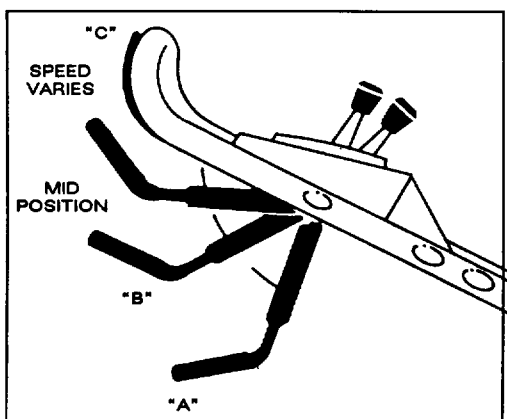

Figure 7
4. BLADE AND TRACTION OPERATION (Fig. 7)—Move control bar down to "A" and raise to engage blade "B". Move ground speed control to desired setting and squeeze control bar against handle "C" to drive. Ground speed varies, depending on space between control bar and handle. To disengage traction drive but keep blade engaged, gradually release control bar to mid position. To self-propel with blade disengaged, simply squeeze control bar against handle, eliminating downward movement necessary for blade engagement.